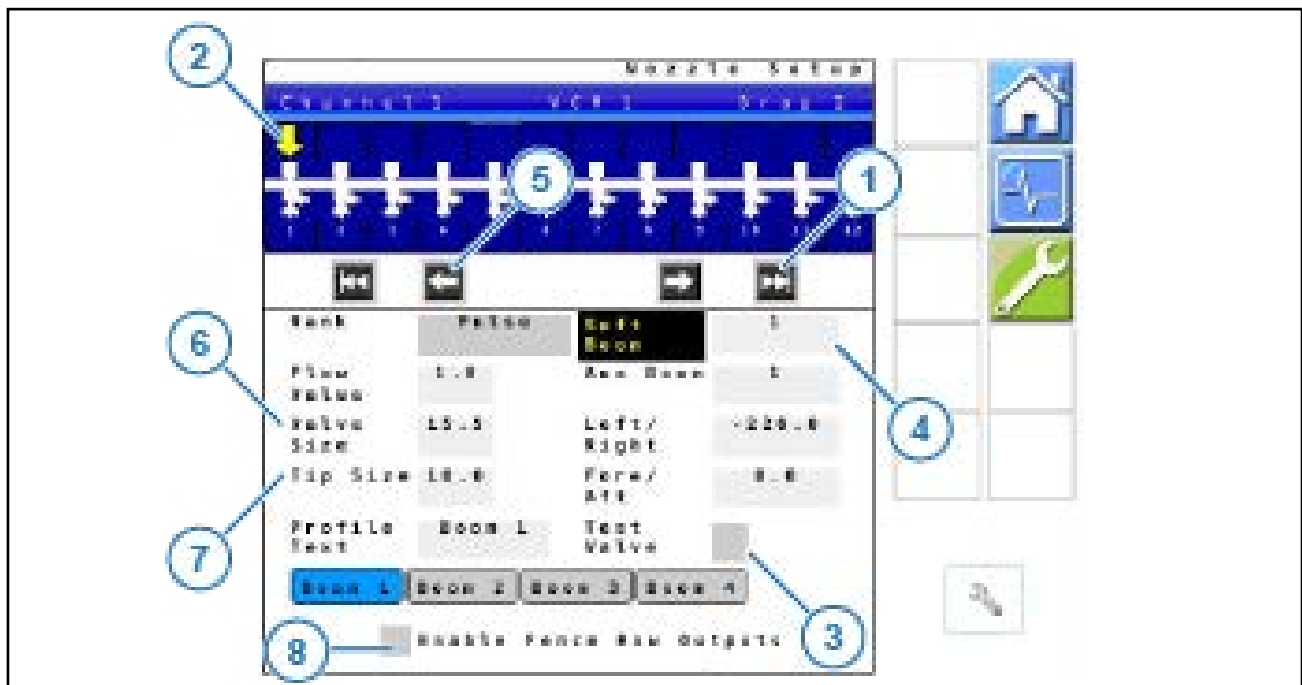

Figure 21: Nozzle Setup Screen
4. On the Nozzle Setup screen, select  (Figure 21, Item 1) to go to the next set of 12 nozzles in sequence.
5. Make sure that the yellow arrow (Figure 21, Item 2) is highlighting the correct nozzle.
6. To make sure that the correct valve is highlighted, select the box next to (Figure 21, Item 3) Test Valve. With an X in the box, the valve will pulse. Remove the X to stop the valve.
7. Select the box (Figure 21, Item 4) next to **Soft Boom** to change the boom layout as desired. Refer to your machine's Integration instructions for exact soft boom configurations.
9. If necessary, change the valve size (Figure 21, Item 6) or tip size (Figure 21, Item 7).
10. To enable Fence Row Outputs, tap checkbox (Figure 21, Item 8). See Hub Connector Identification on Page 123 for output pin designations.
2. At the bottom of the screen, select the desired Profile name (Figure 21, Item 1).